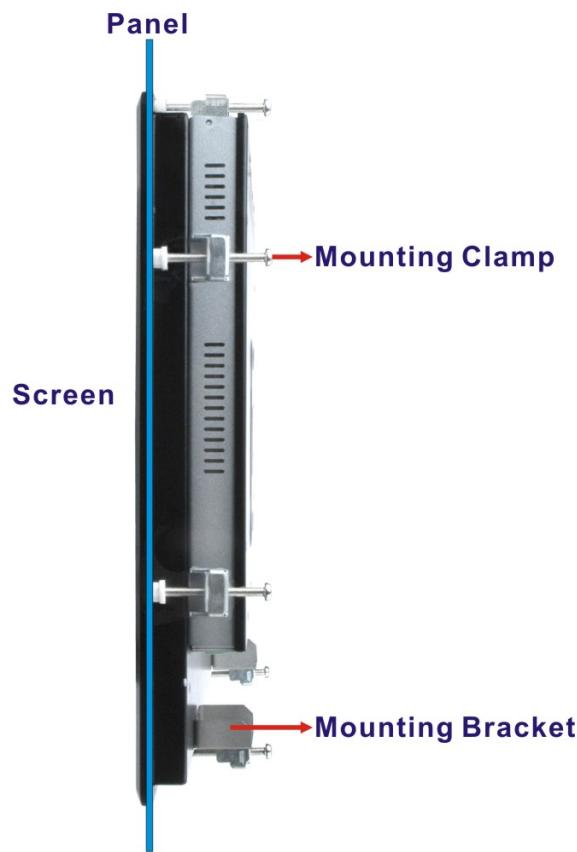

Figure 3-31: Tighten the Mounting Clamp Screws
Step 5: Insert the mounting clamps into the mounting brackets and pre-formed holes along the edges of the PPC-F12B/15B/17B/19B-BTi, behind the aluminum frame (**Figure 3-31**). The required number of mounting clamps may vary by models.
Step 6: Tighten the screws that pass through the mounting clamps until the plastic caps at the front of all the screws are firmly secured to the panel (**Figure 3-31**).